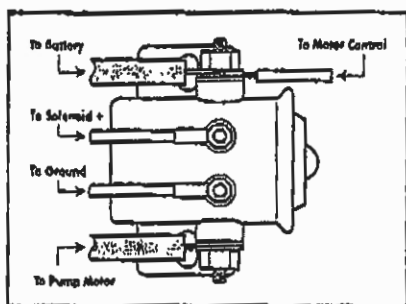

Figure 3a
All power for the "Level Best" electronic operating system is derived from the battery cable connection at the pump motor solenoid. The red power lead for the motor control module also originates from this connection. (Fig. 3a)
3. Check the wire connection at the motor solenoid to motor control. Check that all wiring terminals are properly installed and that the fusible link on the motor control power lead is in good condition. This red wire provides all of the electrical power required for the "Level Best" control system. (Fig. 3a)